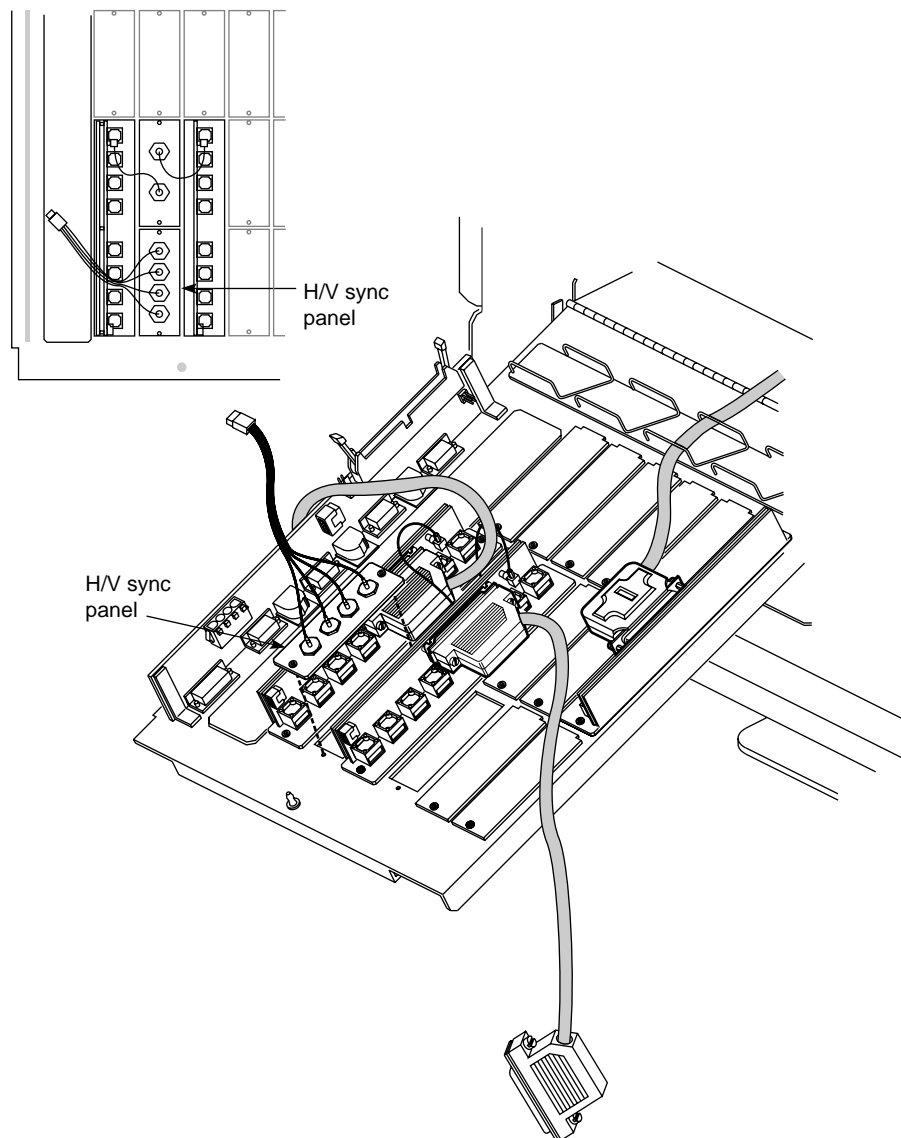

Figure 2-8 Installing the First H/V Sync Panel
5. If the customer is using H/V sync, position the H/V sync panel for channels 0 and 5 next to the EF5 panel for channels 0 and 5, over the slot adjacent (lengthwise) to the one you used for the genlock panel. Align the top of the H/V sync panel with the top of the I/O door and screw it in. See Figure 2-8.